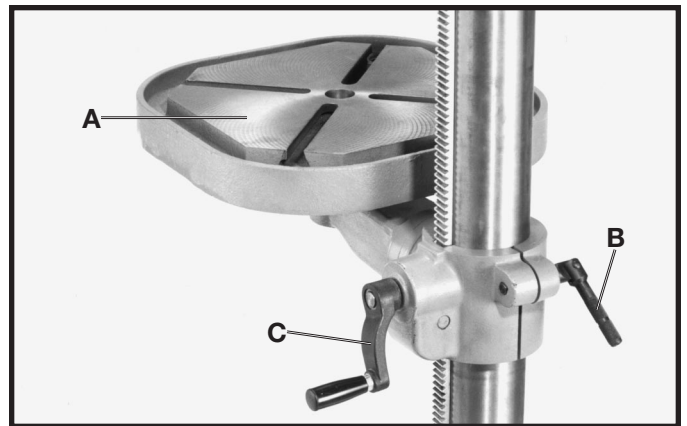

Fig. 25
1. The table (A) Fig. 25, can be raised or lowered on the drill press column by loosening the table clamp handle (B) and turning the table raising and lowering handle (C). After the table is at the desired height, tighten handle (B).